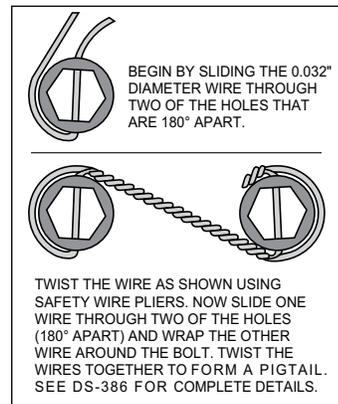

Figure 2. Safety Wire Diagram
STEP 3 Safety wire bolts using standard 0.032 inch diameter stainless steel safety wire as shown in Figure 2. Please refer to Wilwood's data sheet DS-386 (available at www.wilwood.com/Pdf/DataSheets/ds386.pdf) for complete safety wire installation instructions.